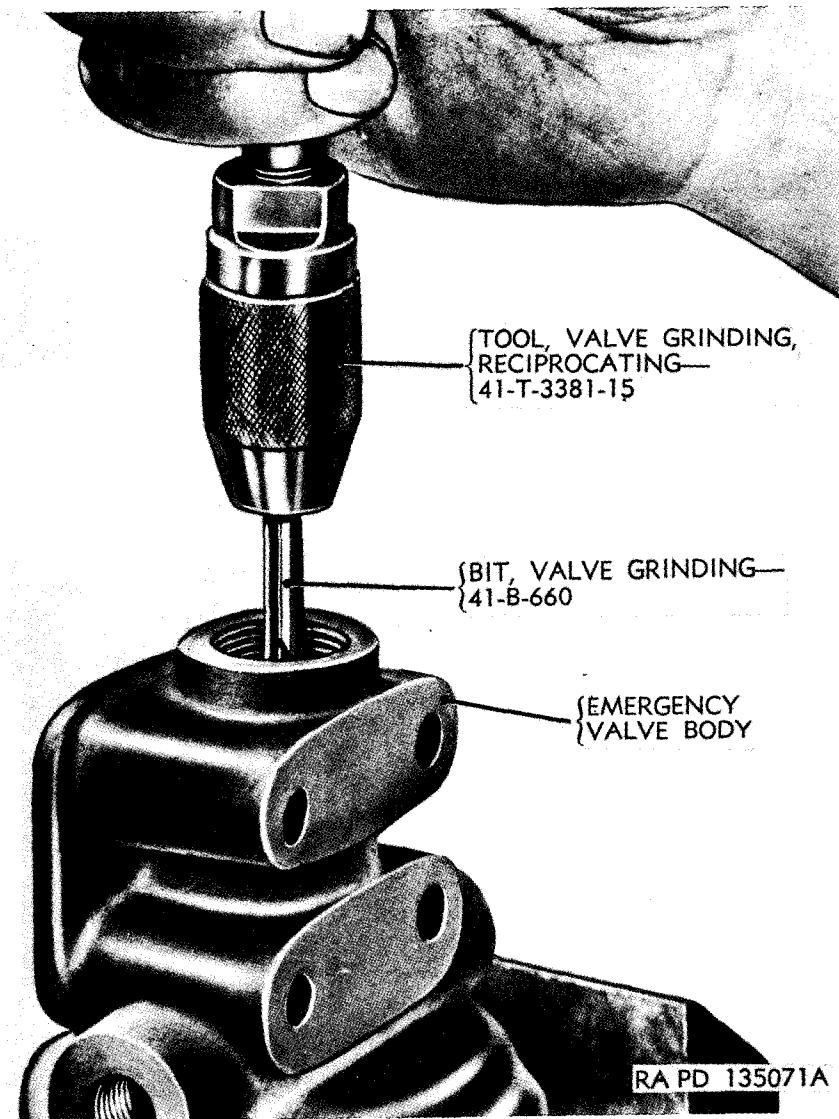

Figure 149. Grinding (lapping) emergency valve to seat.
1. If emergency valve and seat are not too badly worn, repair by grinding (lapping) valve to its seat, using reciprocating valve grinding tool 41-T-3381-15 and valve grinding bit 41-B-660 (fig. 1) with a valve grinding compound (fine), as shown in figure 149.
2. Badly worn valves or valve seats must be replaced. Old seats are drilled out and new ones are pressed into place. Replaced seats must be reamed, using emergency valve reamer 41-R-830 (fig. 2) and reamer 41-R-2125 (fig. 3), as shown in figure 148. When using reamer, only the sharp corner on valve seat must be removed. After reaming, a new valve must be ground (lapped) to seat (fig. 149 and 1 above).
1. *Upper emergency valve and seat.* If the valve and seat are not too badly worn, repair by grinding (lapping) valve to seat, using reciprocating valve grinding tool 41-T-3381-15 and valve grinding bit 41-B-660 (fig. 1) with a valve grinding compound (fine) as shown in figure 149. Badly worn valves or valve seats must be replaced. To remove valve seat, press out with a tap. Coat the outer surface of the new valve seat (that surface which will come into contact with the emergency body) with shellac and press into place. Ream valve seat with ream and facing tool 7083456 (fig. 3) as shown in figure 150. Install new valve and press into its seat with approximately 1,000 pounds pressure. Force must be against flat top of valve and not on end of stem. Grind new valve to its seat after pressing into seat.